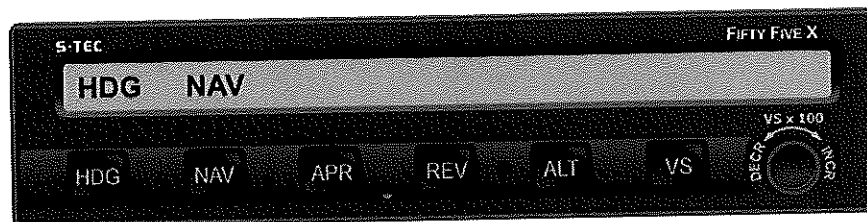

Fig. 3-8. AP Display, HDG Mode Engaged, NAV Mode Armed
To select an intercept angle other than 45°, set the Heading Bug to the desired intercept heading on the compass card, such that the difference between this heading and the desired course is the intercept angle. Then set the Course Pointer (HSI) or OBS (DG) to the desired course. Press and hold the HDG mode selector switch, and then press the NAV mode selector switch to engage the heading mode and arm the navigation mode. The HDG and NAV annunciations will appear as shown in Fig. 3-8, to acknowledge this.